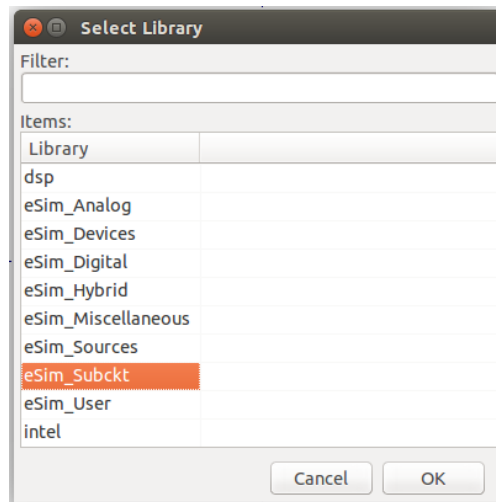

Figure 8.6: Selecting Working Library
2. Select the Current Library as eSim_Subckt shown in Fig. 8.6